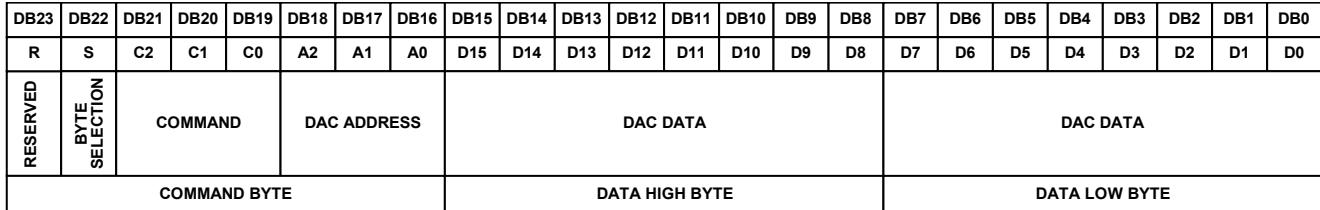
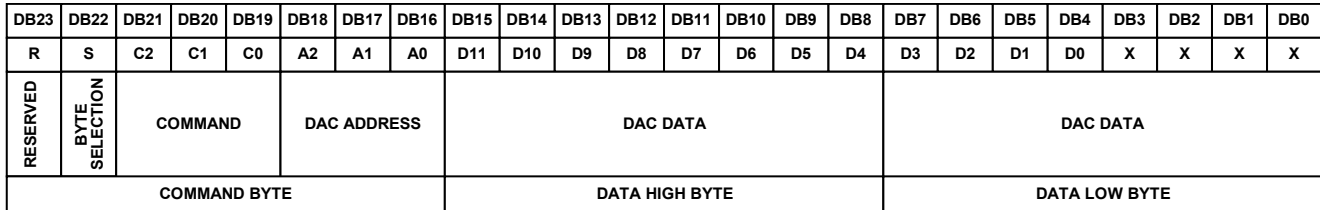

Figure 59. AD5667R/AD5667 Input Shift Register (16-Bit DAC)
Figure 61. AD5627R/AD5627 Input Shift Register (12-Bit DAC)
The input shift register is 24 bits wide. Data is loaded into the device as a 24-bit word under the control of a serial clock input, SCL. The timing diagram for this operation is shown in Figure 3. The 8 MSBs make up the command byte. DB23 is reserved and should always be set to 0 when writing to the device. DB22 (S) selects multiple byte operation. The next three bits are the command bits (C2, C1, C0) that control the mode of operation of the device. See Table 8 for details. The last 3 bits of first byte are the address bits (A2, A1, A0). See Table 9 for details. The rest of the bits are the 16-, 14-, 12-bit data word. The data word comprises the 16-, 14-, 12-bit input code followed by two or four don't cares for the AD5647R and the AD5627R/AD5627, respectively (see Figure 59 through Figure 61).